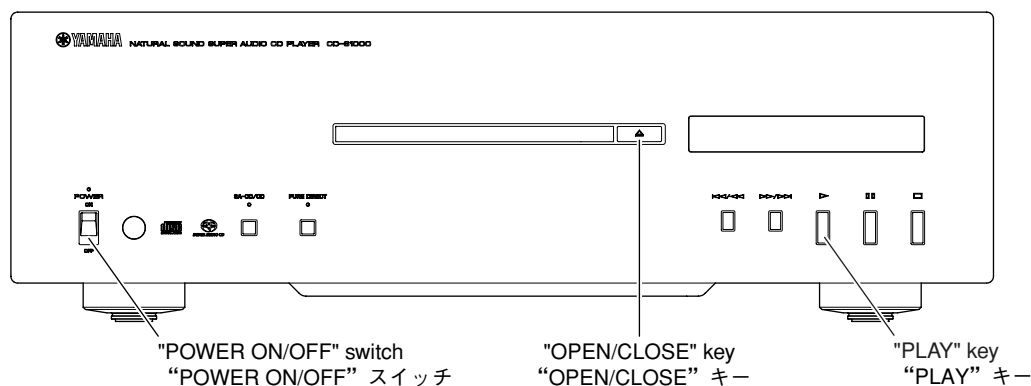

Fig. 7
2. Set the "POWER ON/OFF" switch of this unit to the ON position. (Fig. 7)
3. Press the "OPEN/CLOSE" key of this unit to open the tray. (Fig. 7)